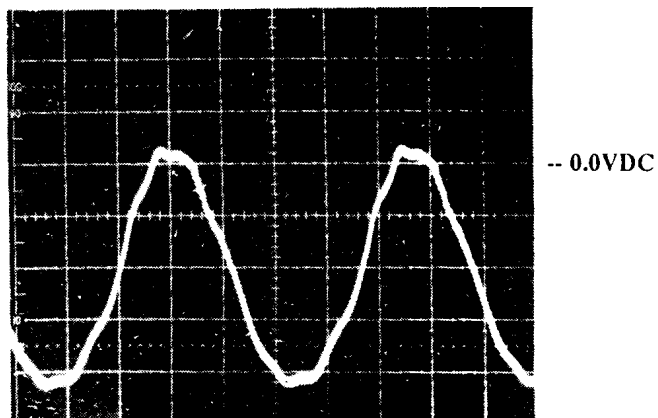

Figure 6-4
- d. With the scope DC coupled, note that an RF sine wave is now displayed on the scope. The waveform should normally measure from 21 to 24 Vp-p and should be centered on the 0.0VDC line of the scope. The drive level may be lower than 20Vp-p at this time. If the waveform falls totally below the 0.0VDC line of the scope, the amplifier is turned OFF. See Figures 6-4 and 6-5 for drive waveforms.